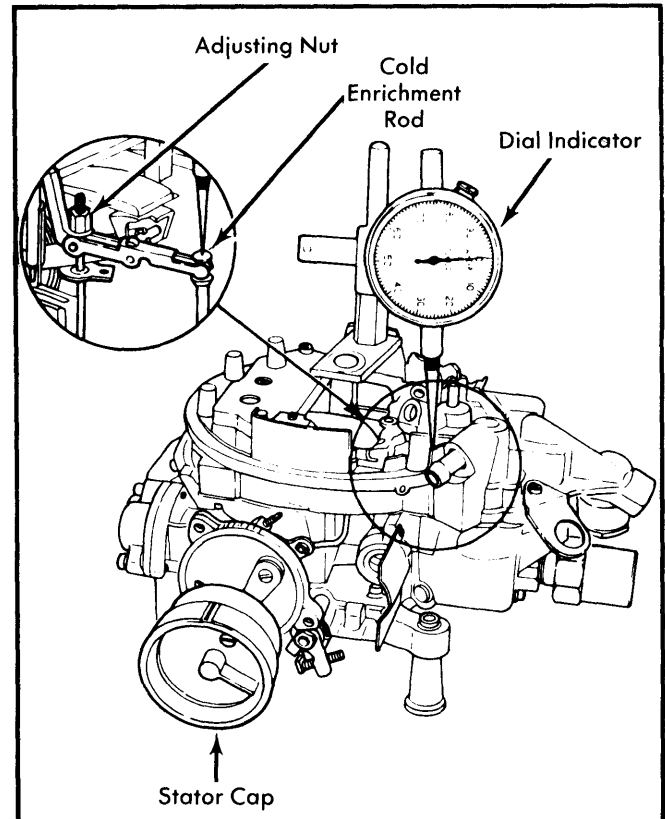

Fig. 4 Adjusting Cold Enrichment Metering Rod
3) Install choke weight (T77L-9848-A7 or equivalent) on choke bimetal lever. Install stator cap (T77L-9848-A or equivalent) and rotate stator cap to index. Turn CER adjustment nut until dial indicator reading is within the "CER 75°F Run" specification. See Fig. 4.